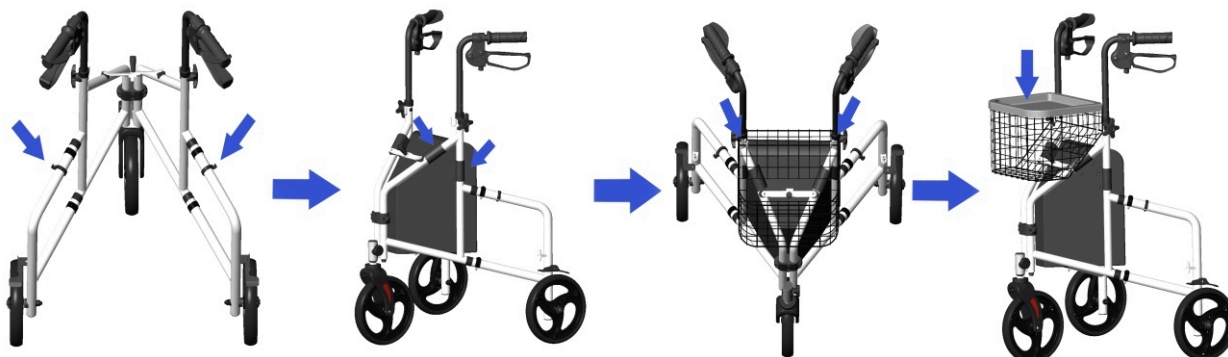

Figure 5
Step 4 (as shown in Figure 5): Take the brake cable clips (13) and attach them to the upper diagonal tubes of the left rear frame assembly (3) and the right rear frame assembly (5). Clip the left and right brake cables into the brake cable clips (13). Take the cloth bag (8) and hang it on the frame (as shown in Figure 5). Hang the iron basket (6) onto the hooks on the left and right sides of the main frame assembly (1) to secure it firmly. Then take the tray (7) and place it on top of the iron basket (6). Press down so that the tray (7) covers the top of the iron basket (6).